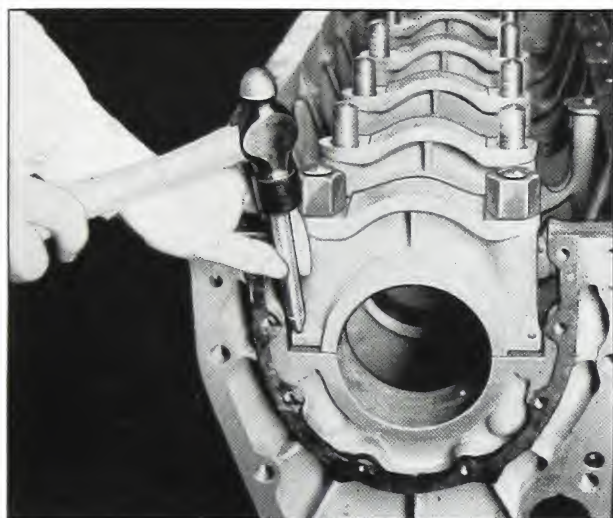

Fig. 2-29. Locking dowel in cap
8. Drive the 3/16" dowels into the reamed holes to a definite stop and peen the metal of cap over the dowel as shown in Fig. 2-29 to eliminate any possibility of dowels dropping into oil pan.